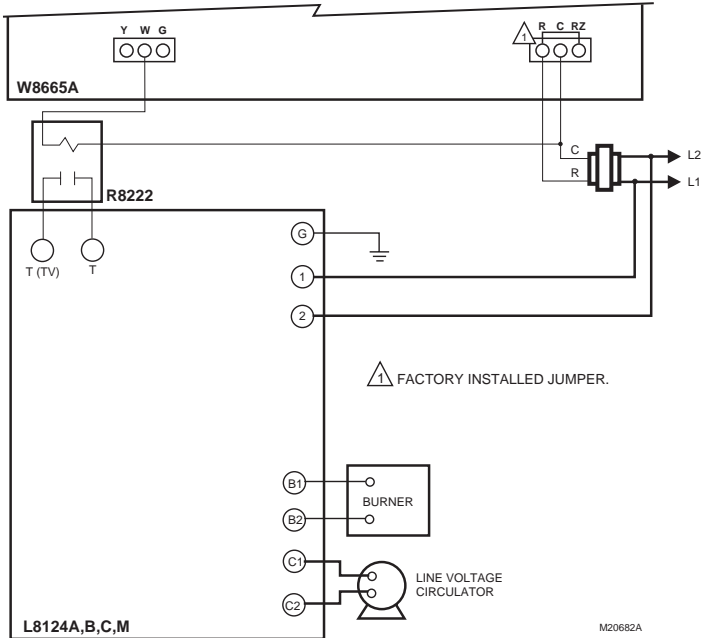

Fig. 5. Single zone hot water heat using an L8124A,B,C,M or L8148 Aquastat, an R8222 relay and a transformer.
8. Attach the zone number sticker, included with the thermostat, onto the thermostat case on the inside of the thermostat cover. See Fig. 5.